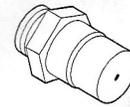

Figure 9
Step 13. Unscrew the orifice from the manifold and replace it with the one provided with this kit (*Figure 9*).